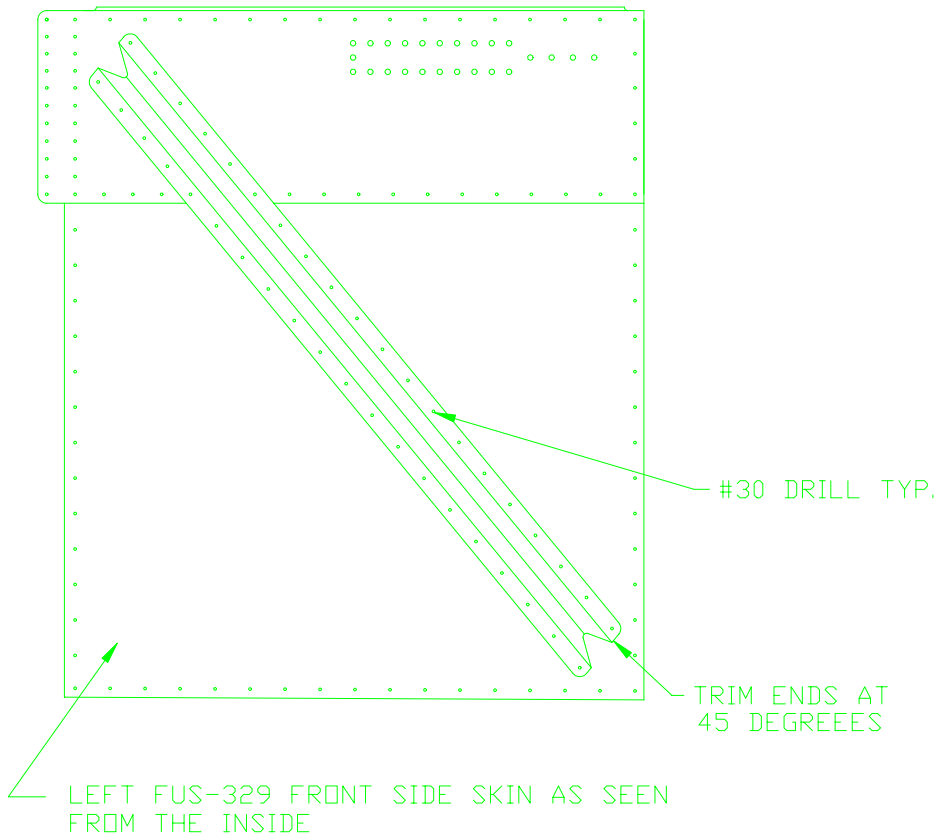

FIGURE 25
- 43) For each front side skin and doubler cut a length of FUS-12 witches hat to fit as in Figure 25. Trim ends at 45°. Back drill to #30.